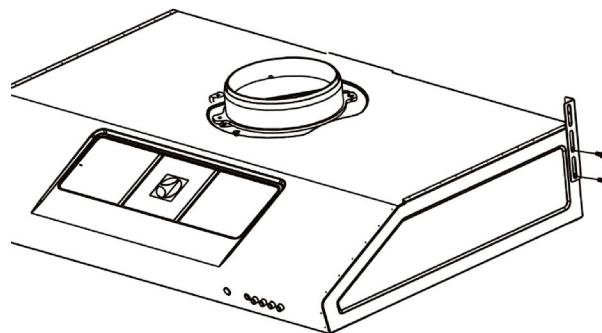

Fig 9
-Before fixing the hood under the unit, drill a hole of 163mm diameter in the wall unit (Fig.9). In any case, check the position of the power outlet and consider where the power cable will run, since a hole might have to be made in the wall unit to accommodate it. Drill 4 holes in the wall unit, respecting the distance indicate in Fig.9. Insert the 4 mounting screws however without screwing them completely. ---
Fitting under wall unit: Before fixing the hood to the wall unit, check the position of the power outlet and consider where the power cable will run , since a hole might have to be made in the wall unit to accommodate it. Drill 4 holes and insert the 4 mounting screws however without screwing them completely in the wall unit, respecting the distance indicated in Fig.9. Push the hood up against the wall unit and screw the 4 screws completely operating from inside the hood. Make the electrical connection. Installation is now complete.